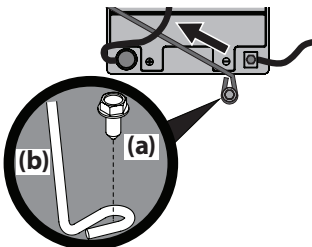

Figure 13
**NOTE:** Wiring harness should lay on top of battery hold down rod, otherwise damage to the wiring harness may result. See Figure 13 on page 12.
3. Remove the battery hold down rod by pushing the hooked end out of the tab on the fender to the right side of the battery. Then flip the battery hold down rod up to free the battery. See Figure 13.